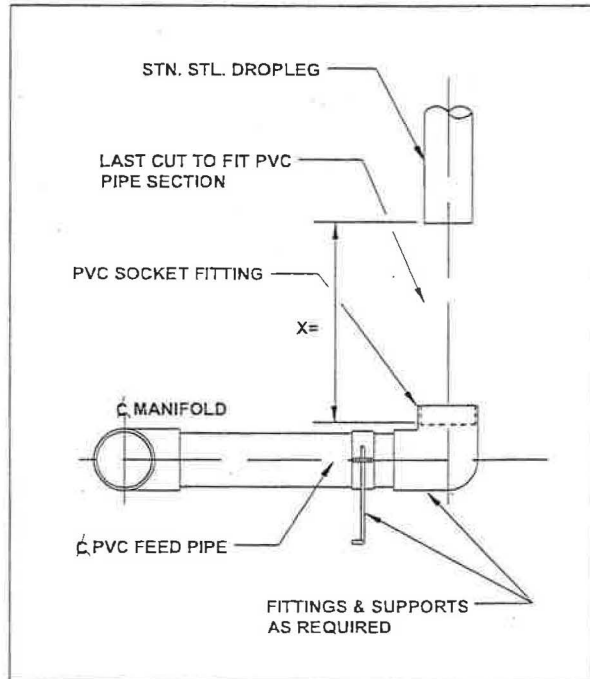

Figure 11
**A)** With a heavy body solvent cement, field glue all required PVC feed pipe and fittings up to the last "cut to fit pipe section" which mates to the stainless steel upper dropleg section. See Figure 11 and the erection drawings. Install feed pipe supports as required and shown on the erection drawings.
**B)** Measure the distance "X" from the end of the installed stainless steel upper dropleg to the insertion depth of the PVC socket fitting. See Figure 11.